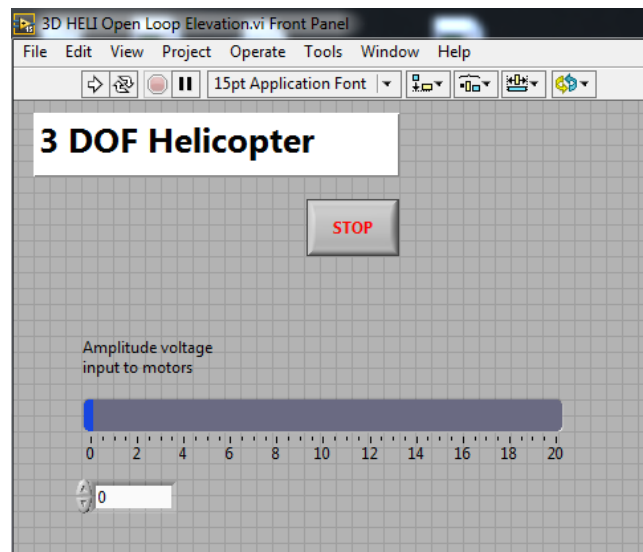

Figure 3: LabVIEW VI used to run the real system in open-loop configuration.
2. In the front panel a slider can be seen, as that shown in Figure 3. This is used to control both motors' voltages.²